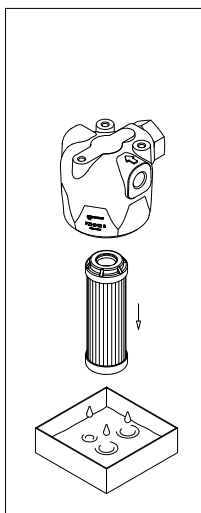

fig. 10
- (Fig. 10) Pull the filter element out